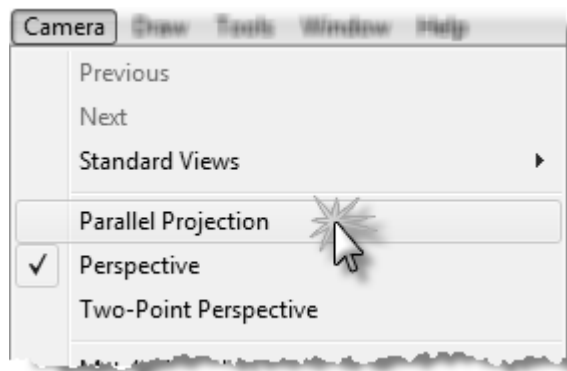

FIGURE 4-2.1 Parallel Projection mode
3. From the *Camera* menu, select **Parallel Projection** (Figure 4-2.1).